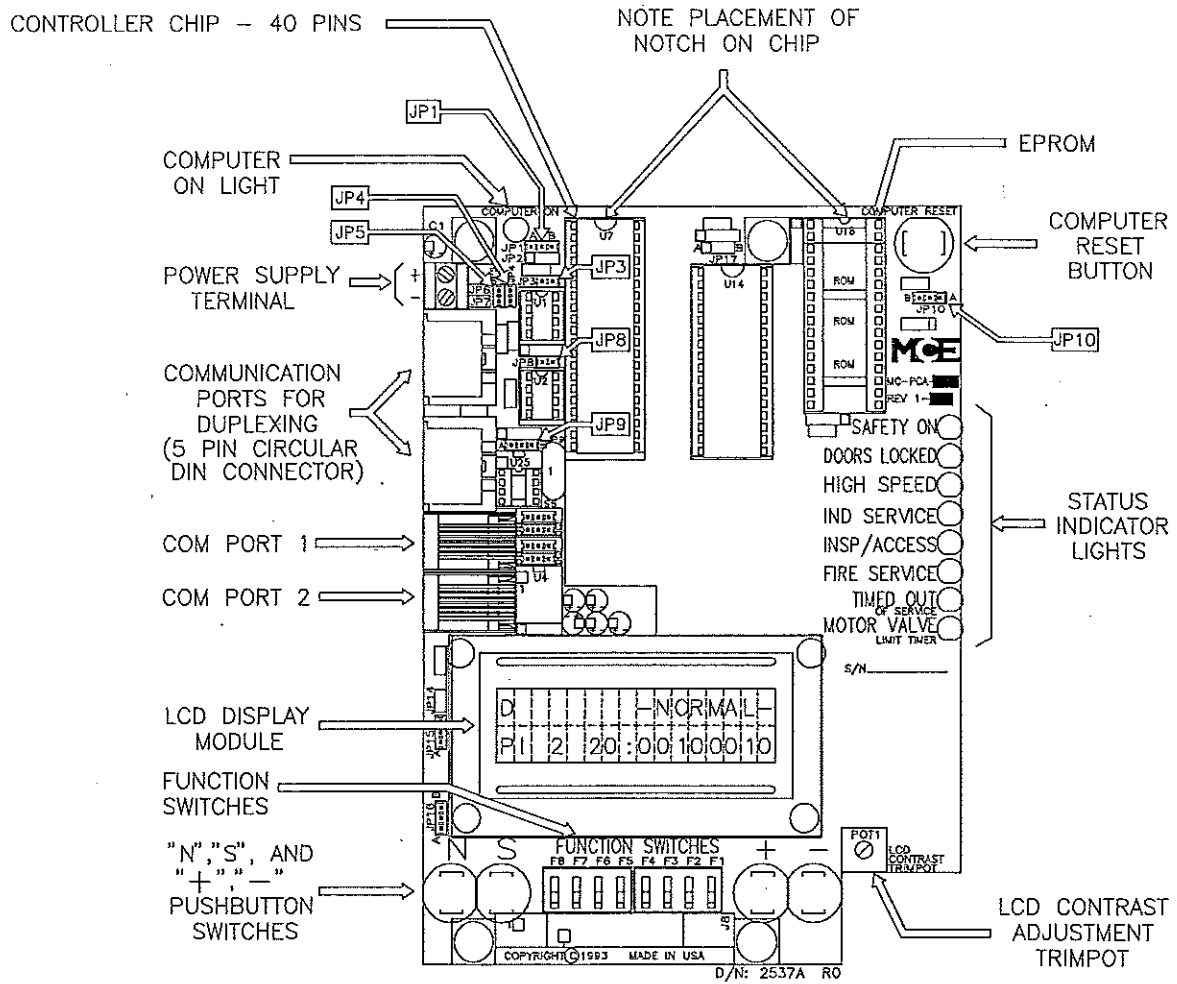

Figure 1 - MC-PCA board
- 2) Refer to Figure 1 for the location of the microcontroller chip (socket U7) and EPROM chip (socket U18) on the MC-PCA board.
their corresponding holes in the socket. The notch on the chip should be positioned towards the top of the board. See Figure 1.